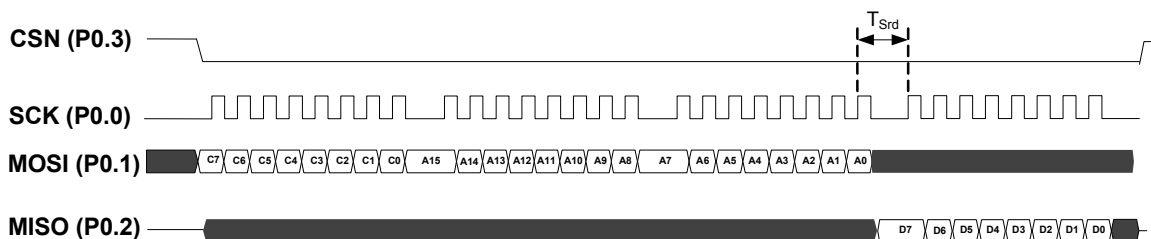

Figure 64. SPI OTP read operation, shown with 1 databyte
2. The `READ` command is transmitted through the `MOSI` line followed by the two byte address to the byte to be read as shown in Figure 64. on page 141.